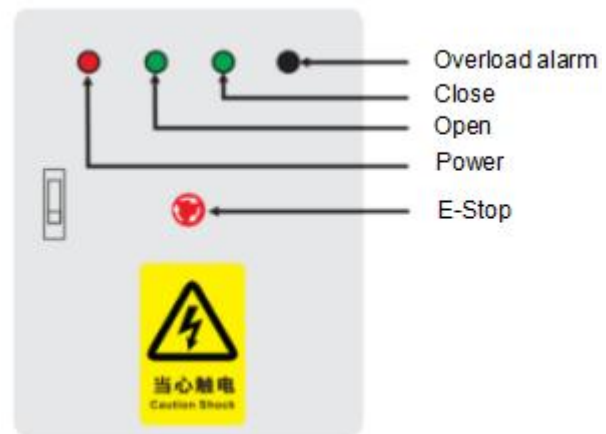

Figure 1-2 Distribution box
- 3) Check the power supply (distribution box: see Figure 1-2): whether it meets the system requirements.